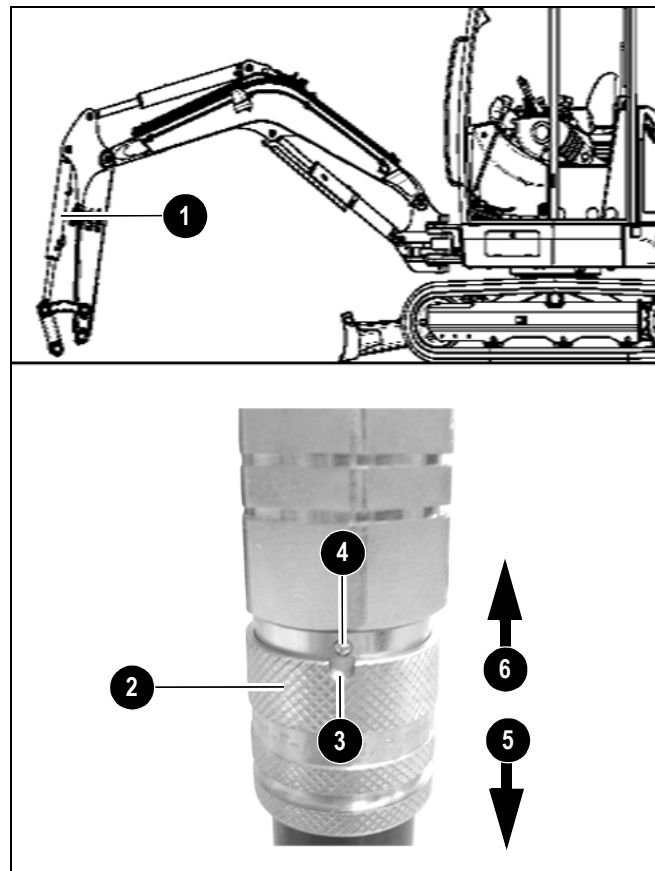

Figure 3-36 Quick Coupler Connections
2. Extend the dipper arm cylinder halfway and position the boom/dipper arm so the auxiliary hydraulic connectors are positioned as shown in Figure 3-36.
- a. If necessary, rotate lock sleeve (2, Figure 3-36) so notch (3) aligns with lock ball (4).
- b. Pull lock sleeve (2) down in the direction of arrow (5).
- d. Release lock sleeve (2) so it snaps into place and locks the couplings together. Verify the
- a. Pull lock sleeve (2, Figure 3-36) down in the direction of arrow (5).
- c. Twist lock sleeve (2) so notch (3) is aligned with lock ball (4).
- d. Push lock sleeve (2) up in the direction of arrow (6) to disconnect the coupling.